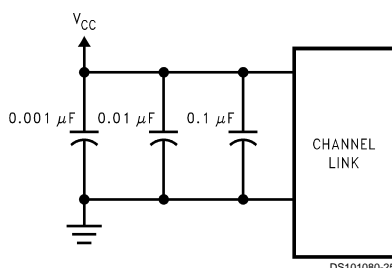

FIGURE 19. CHANNEL LINK Decoupling Configuration
**DECOUPLING CAPACITORS:** Bypassing capacitors are needed to reduce the impact of switching noise which could limit performance. For a conservative approach three parallel-connected decoupling capacitors (Multi-Layered Ceramic type in surface mount form factor) between each  $V_{CC}$  and the ground plane(s) are recommended. The three capacitor values are  $0.1\mu F$ ,  $0.01\mu F$  and  $0.001\mu F$ . An example is shown in Figure 19. The designer should employ wide traces for power and ground and ensure each capacitor has its own via to the ground plane. If board space is limiting the number of bypass capacitors, the PLL  $V_{CC}$  should receive the most filtering/bypassing. Next would be the LVDS  $V_{CC}$  pins and finally the logic  $V_{CC}$  pins.